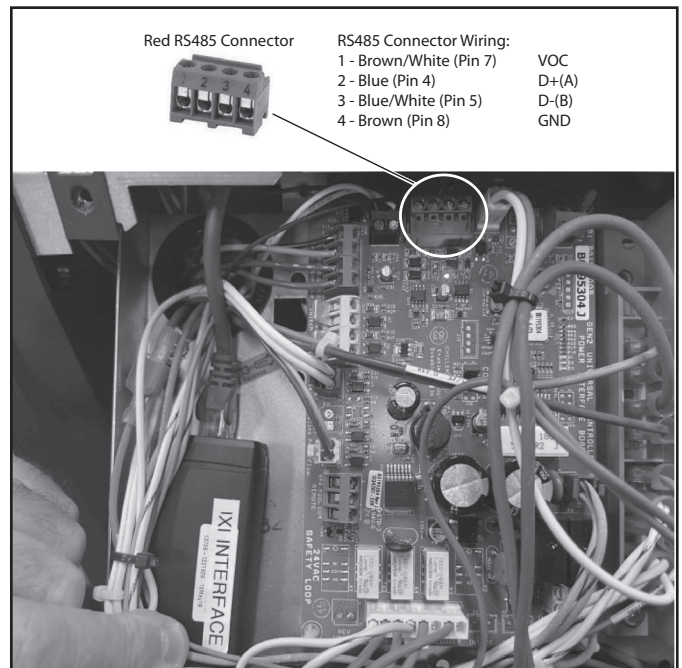

Figure 21. IXI RS485 Connector Wiring
5. Seat the IXI interface controller on the cable raceway safely as shown in Figure 21.